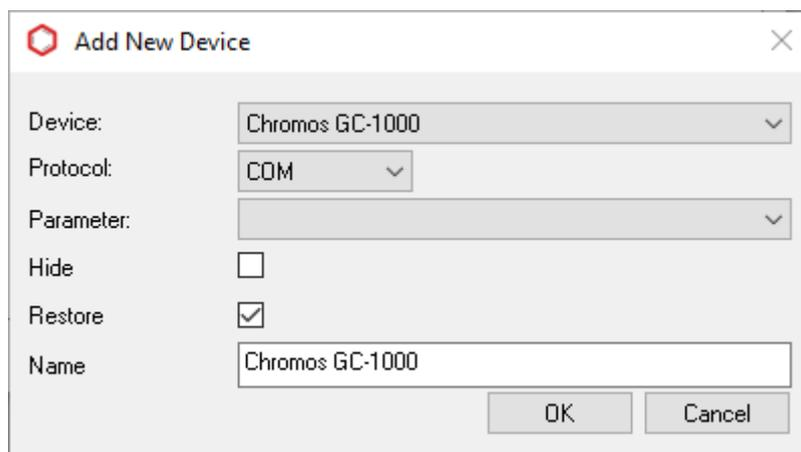

Fig. 105: Adding a Device
6. To add a device, click  **Add**. The *Add New Device* window opens (Fig. 105):